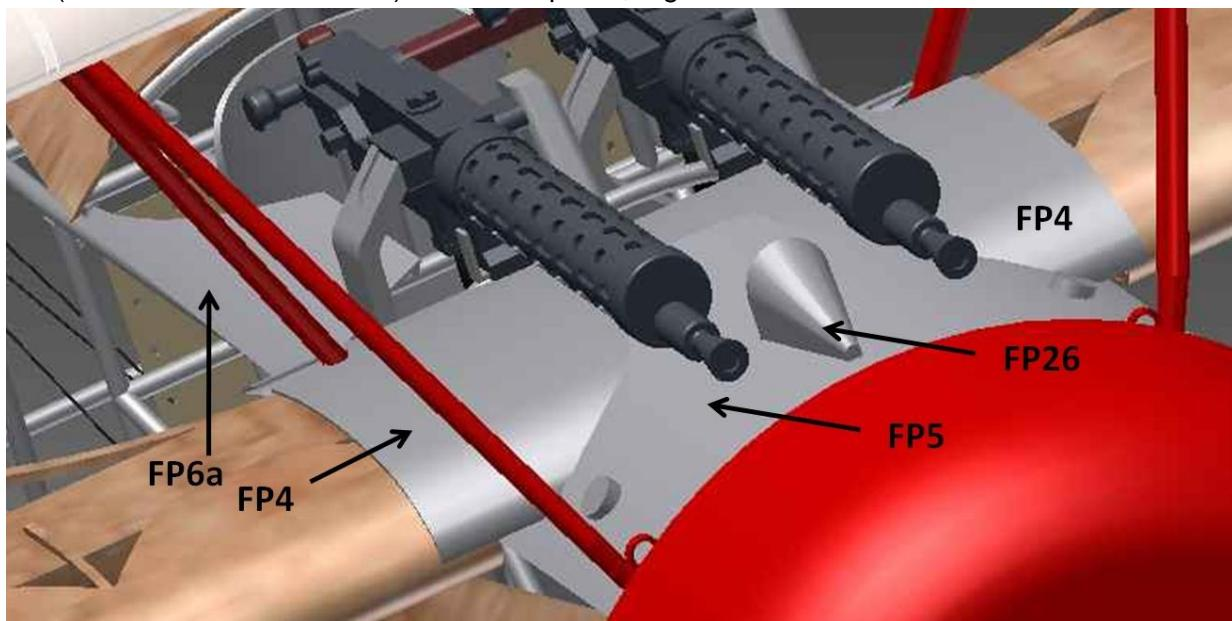
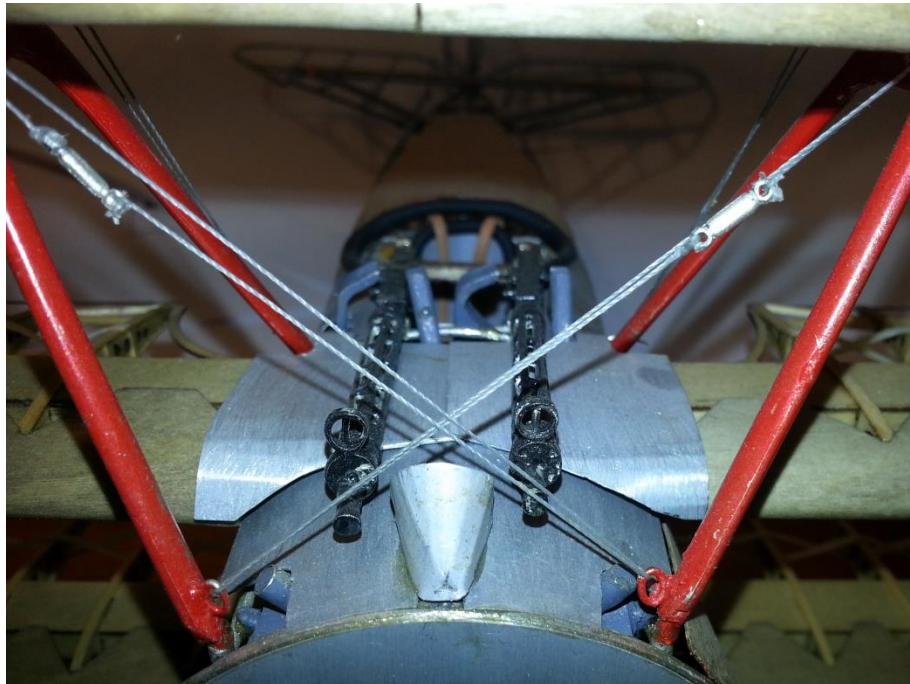
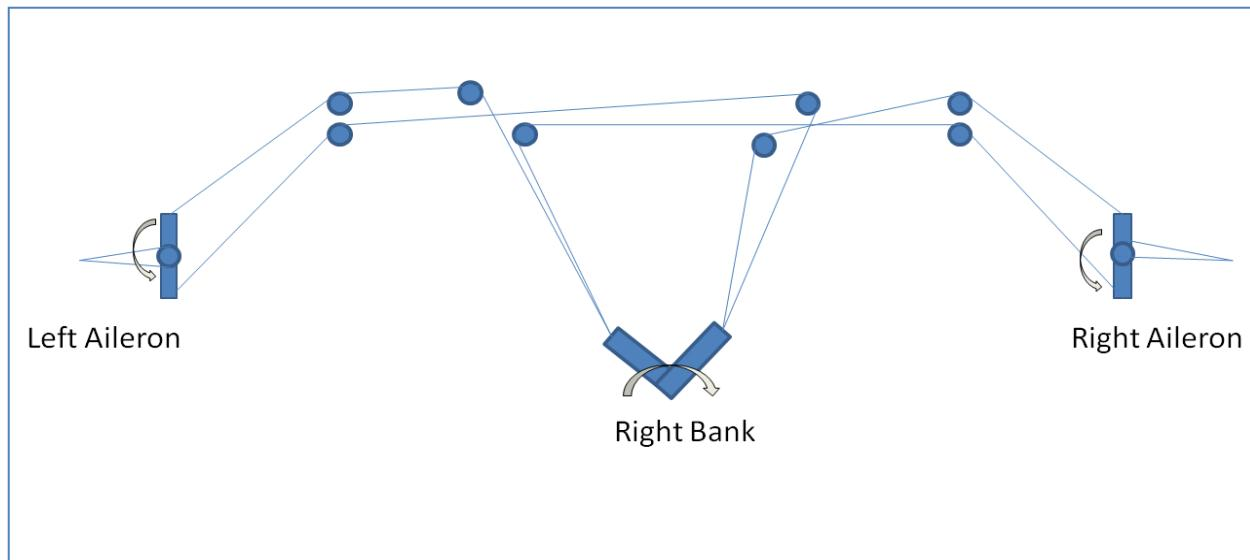

Figure 7.2 Fuselage Sheet Metal
Figure 7.3 Front view of model with cowling removed
Figure 7.4 Aileron cable paths
On the top of the fuselage there is a metal skin made up of one front piece (FP5), two center pieces (FP4), aft pieces (FP6a and b) and the fuel gage windscreens (FP26) as shown in Figure 7.2 (FP6b is hidden from view) and in the photo, Figure 7.3.
They should lie along the top surface of the wing and mate against FP5. This is done by rolling the front edge to match the shape of the airfoil as can be seen in Figure 7.3. They may overlap each other at the center, either leave this or trim. Then add FP6a (right) and FP6b (left) to form the front edge of the cockpit. You may want to add the coaming to these first, see item 3 below.
Cut FP26 from its paper stock and paint red or aluminum to match the other parts. Form as shown in Figures 7.2 and 7.3 and bend tabs so it can be glued to FP5. Note: ignore the undersize part labeled FP26 on the etched aluminum sheet.
Padding on the back of the machine guns is made of three pieces of 3/32" square basswood 2.4mm glued together to make an "U" shape see detail on Sheet D and the photo in Figure 7.3.
With the model in the jig, the upper wing can now be mounted. Be sure the sockets in the fuselage for the Top Wing Strut FC32s are clean. Both struts are cast the same. To make a left and a right remove the bracing eyelets on the longer, rear legs of each strut since bracing is only between the front legs. Take care as the two legs are only slightly different in length. Deciding which eyelets to remove should be done with the model in the jig. The struts can be painted to match those outboard. Epoxy the struts in place in the fuselage sockets. Glue on the top wing. Add the outer struts aligned with those between the middle and bottom wings. Add bracing with turnbuckles between the front struts as shown in Figure 7.3. If all is well, the machine guns should be aimed to fire under the bracing wires.
The aileron cables can now be run from the bellcrank, between the ammo can and Frame 3a and up through the pulleys as shown in Figure 7.4. You can see them running just behind the wing strut in Figure 7.3.